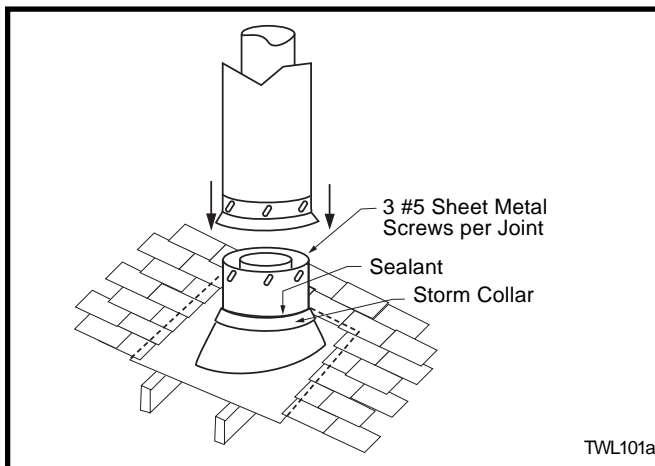

Fig. 33 Roof flashing.
7. Install roof support (Fig. 33 & 34) and roof flashing making sure upper flange is below the shingles. (Fig. 33)
8. Install appropriate pipe sections until the venting is above the flashing. (Fig. 33)
The enlarged ends of the vent section always face downward. (Fig. 33)